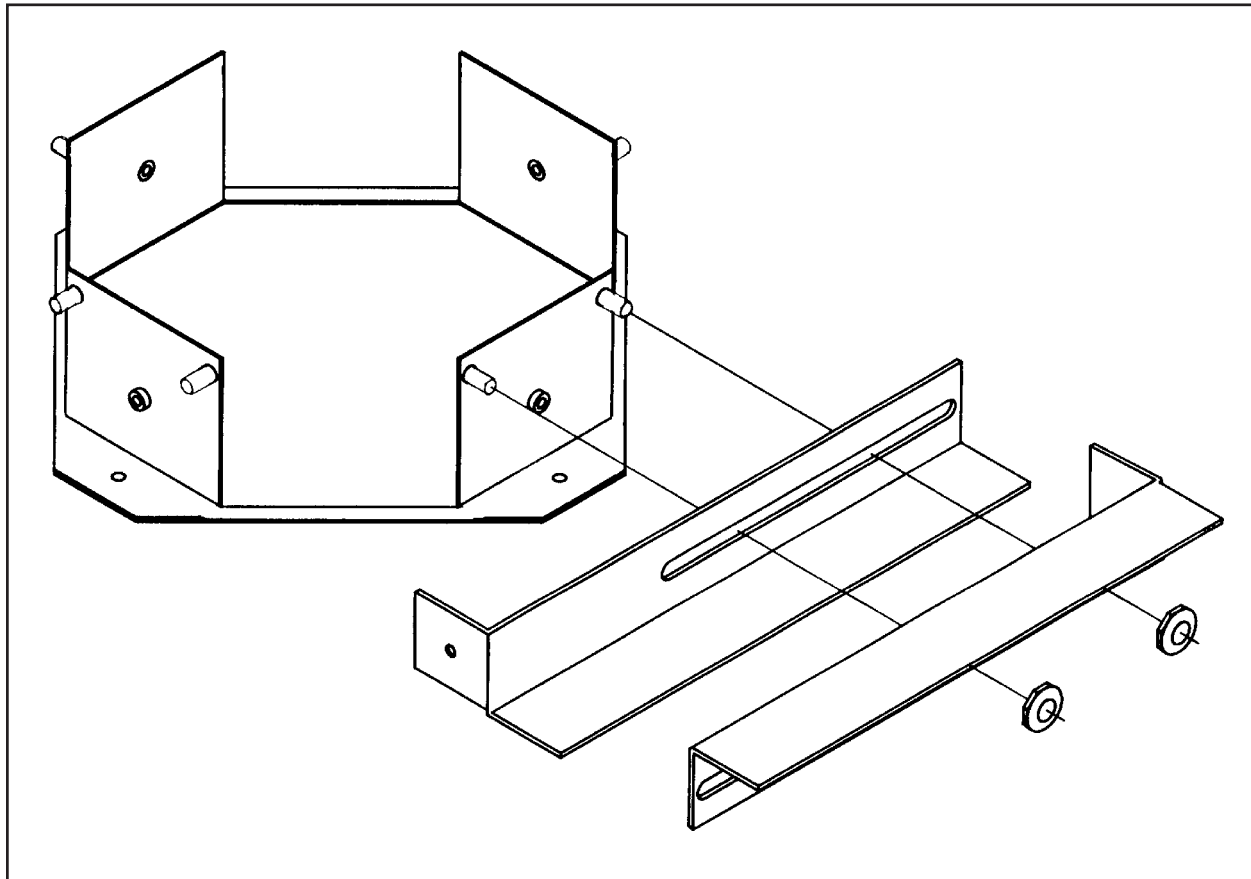
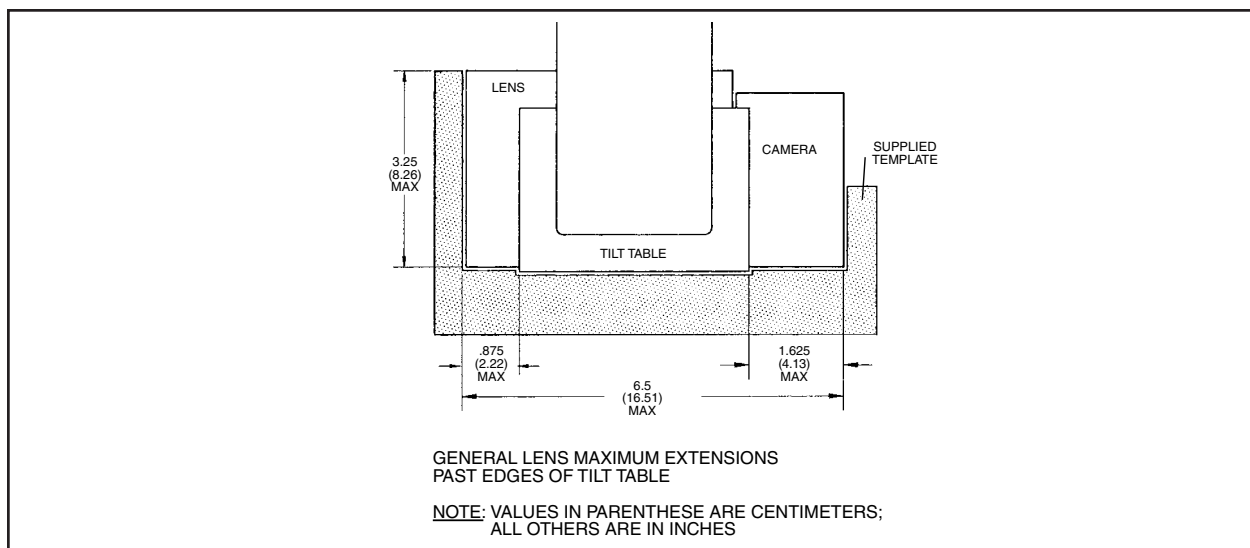

Figure 2. Back Box Mounting Rail Installation
Figure 3. Camera/Lens Mounting Dimensions
3. Remove the factory assembled 14.5" square mounting plate by removing the four (4) 1/4-20 bolts.
6. Replace the ceiling tile and place the mounting plate on top of it, centering the plate on the tile. Attach the back box mount rails with 1/4-20 nuts (provided) to two opposite sides of the mounting plate. Use these mount rails to secure the back box in place so that it can't move when inserting or removing the dome drive unit, and so that all of the weight of the unit is not on the ceiling tile, per local code. (Refer to Figure 2.)
7. Slide the back box through the ceiling tile and mounting plate and replace the four (4) 1/4-20 bolts and tighten to secure the back box to the mounting plate.
9. Attach the lens and camera head to the tilt table (hardware not supplied), if not factory pre-assembled, using the camera/lens position template supplied as a guide (see Figure 3). Locate the lens and camera so that when the notched area in the template is fitted under the tilt table, the lens and camera do not project further out from the tilt table than allowed by the template. Also, the lens must not project higher than the long end of the template.
2. Angle the 23.75" back box mounting plate (part number APSB19, which must be ordered separately) through the grid opening and set the plate into the grid. Attach the back box mount rails with 1/4-20 nuts (provided) to two opposite sides of the mounting plate (see Figure 2). Use these mount rails to secure the back box in place so that it can't move when inserting or removing the dome drive unit, and so that all of the weight of the unit is not on the ceiling tile, per local code.
4. Remove the factory assembled 14.5" square mounting plate by removing the four (4) 1-4/20 bolts.
5. Slide the back box through the mounting plate and replace the four (4) 1/4-20 bolts and tighten to secure the back box to the mounting plate.
7. Attach the lens and camera head to the tilt table (hardware not supplied), if not factory pre-assembled, using the camera/lens position template supplied as a guide (see Figure 3). Locate the lens and camera so that when the notched area in the template is fitted under the tilt table, the lens and camera do not project further out from the tilt table than allowed by the
3. Remove the factory assembled 14.5" square mounting plate by removing the four (4) 1/4-20 bolts and place it over the opening. Attach the back box mount rails to the mounting plate with 1/4-20 nuts (provided) to two opposite sides of the mounting plate (see Figure 2). Use these mount rails to secure the back box in place so that it can't move when inserting or removing the dome drive unit, and so that all of the weight of the unit is not on the ceiling tile, per local code.
4. Slide the back box through the mounting plate and replace the four (4) 1/4-20 bolts and tighten to secure the back box to the mounting plate.
6. Attach the lens and camera head to the tilt table (hardware not supplied), if not factory pre-assembled, using the camera/lens position template supplied as a guide (see Figure 3). Locate the lens and camera so that when the notched area in the template is fitted under the tilt table, the lens and camera do not project further out from the tilt table than allowed by the template. Also, the lens must not project higher than the long end of the template.